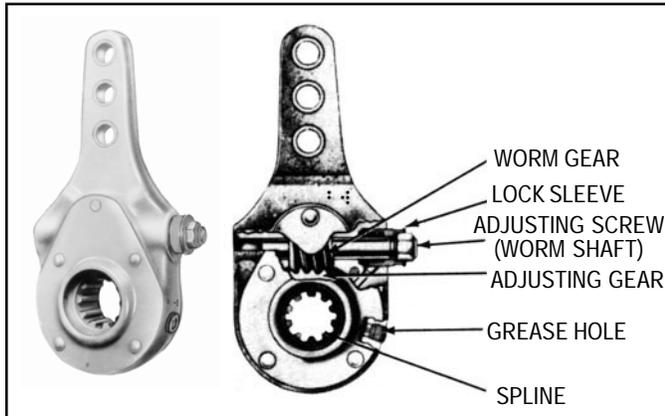

FIGURE 1 - POSITIVE LOCK TYPE SLACK ADJUSTER
There are two types of adjusting mechanisms used on Bendix slack adjusters currently manufactured. The light to medium torque rated slack adjusters (Fig. 1) use a positive lock mechanism consisting of a spring loaded lock sleeve, which when positioned properly, engages the adjusting screw nut, preventing the adjusting screw (worm shaft) from rotating.
**Using the Positive Lock Slack Adjuster Mechanism: (Fig. 1)**